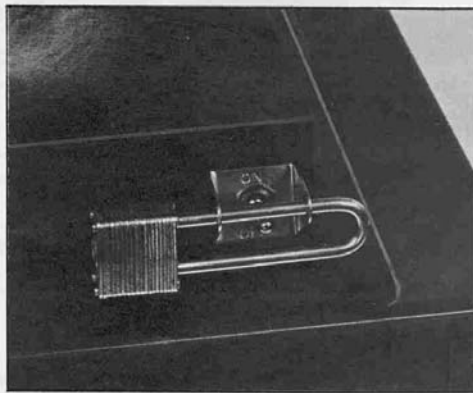

Fig. 8
5. We suggest that when the drill press is not in use, the switch be locked in the "OFF" position using a padlock, as shown in Fig. 8. Catalog No. 49-031 Padlock is available as an accessory.